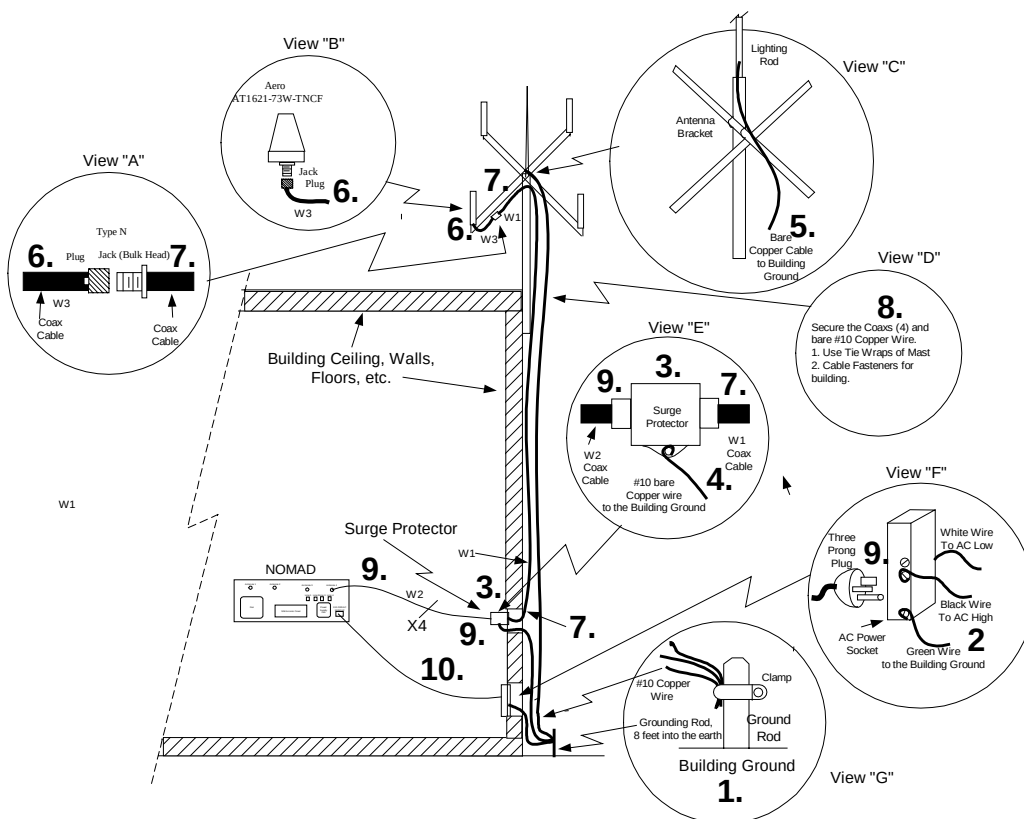

Figure 4.3-1: MXU Console Interconnections
Step 1. Locate the “Building Ground”. It is extremely important to ground the antenna assembly, surge protectors, and power outlet to the central building ground. If not properly grounded, a nearby lighting strike can easily damage the MXU system and can cause personal injury or death. In figure 4.3-1 the building ground is illustrated, in view G, as a ground rod. **If any doubt exists as to the location of the building ground consult with a local certified electrician.**